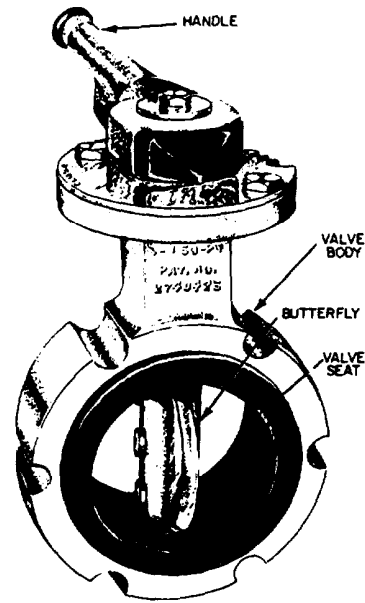

Figure 6-4.—Butterfly valve.
**BUTTERFLY VALVES.**—The butterfly valve, one type of which is shown in figure 6-4, may be used in a variety of systems aboard ship. These valves can be used effectively in freshwater, saltwater, JP-5, F-76 (naval distillate), lube oil, and chill water systems aboard ship. The butterfly